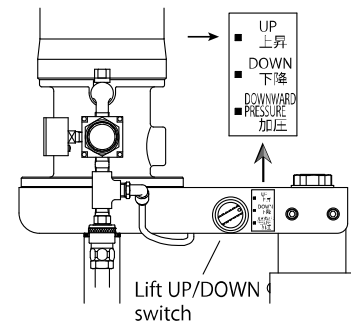

Fig.16
- 3) When you switch the control of the lift up/down switch to “UP”, the pump moves upwards, when the pail set on the machine moves upwards at the same time. Pry the pail away from the machine. (Fig.16)